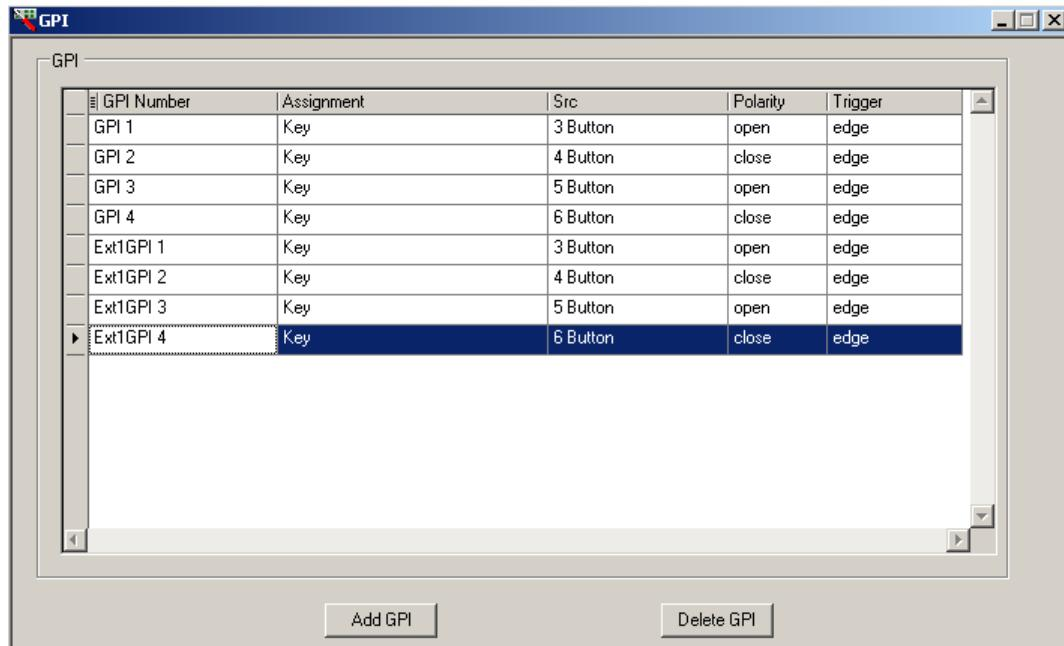

Figure 10-24 GPI Settings Dialog Box
- When using an eBOX GPI (represented in **Figure 10-24** as an **ExtGPI** in the **GPI Number** column), if the polarity is set to open/edge, the defined GPI is opened from closed, the function is triggered. When the polarity is set to close/edge and the defined GPI is closed, the function is triggered.